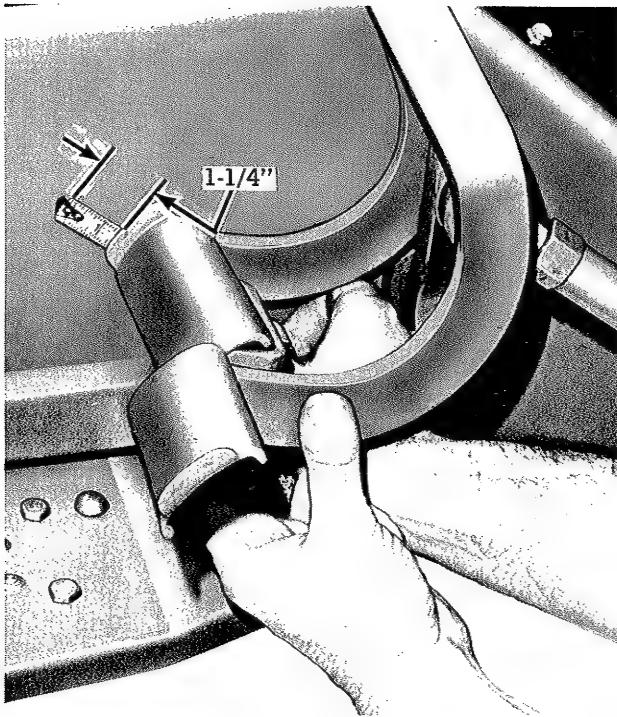

Figure 16. Brake pedal free travel measured on right side of tractor.
See figure 16. You should adjust the brakes if they become ineffective or if the travel of the two brakes becomes different preventing them from braking the two wheels simultaneously when the brake pedals are locked together. To adjust the brakes, proceed as follows:
as measured in figure 16 is 1-1/4 inches. While holding the turnbuckle (A) with one wrench, tighten the two nuts (B) at either end of the turnbuckle against the turnbuckle to lock it in place.
4. Depress the left brake pedal and lock it in place with the parking brake lock. If the parking brake will not lock in place you may have to increase the amount of brake pedal free travel by turning the turnbuckle clockwise. With the parking brake lock set to hold the left brake pedal down, follow the procedure described in step (3) to adjust the right brake pedal. Alternately depress and tighten it until it is even with the left brake pedal when depressed. Checking the adjustment of the right brake pedal in this manner will not only give it the required 1-1/4 inches of free travel, but also insure that the two brakes will be activated at the same time when they are locked together. Tighten the locking nuts in place on either side of the turnbuckle.